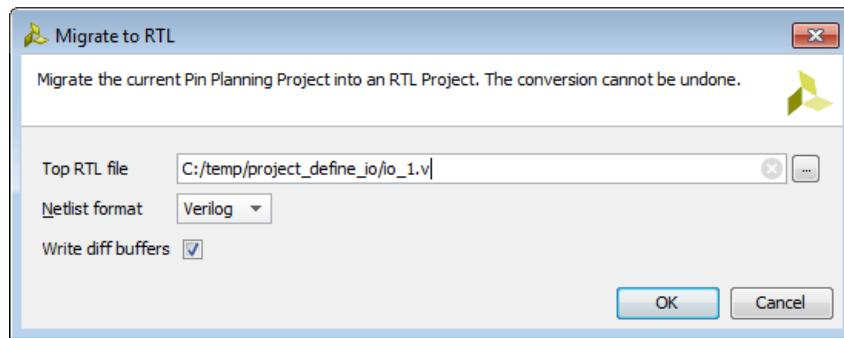

Figure 3-22: Migrate to RTL Dialog Box
2. In the Migrate to RTL dialog box (Figure 3-22), set the following options, and click **OK**.